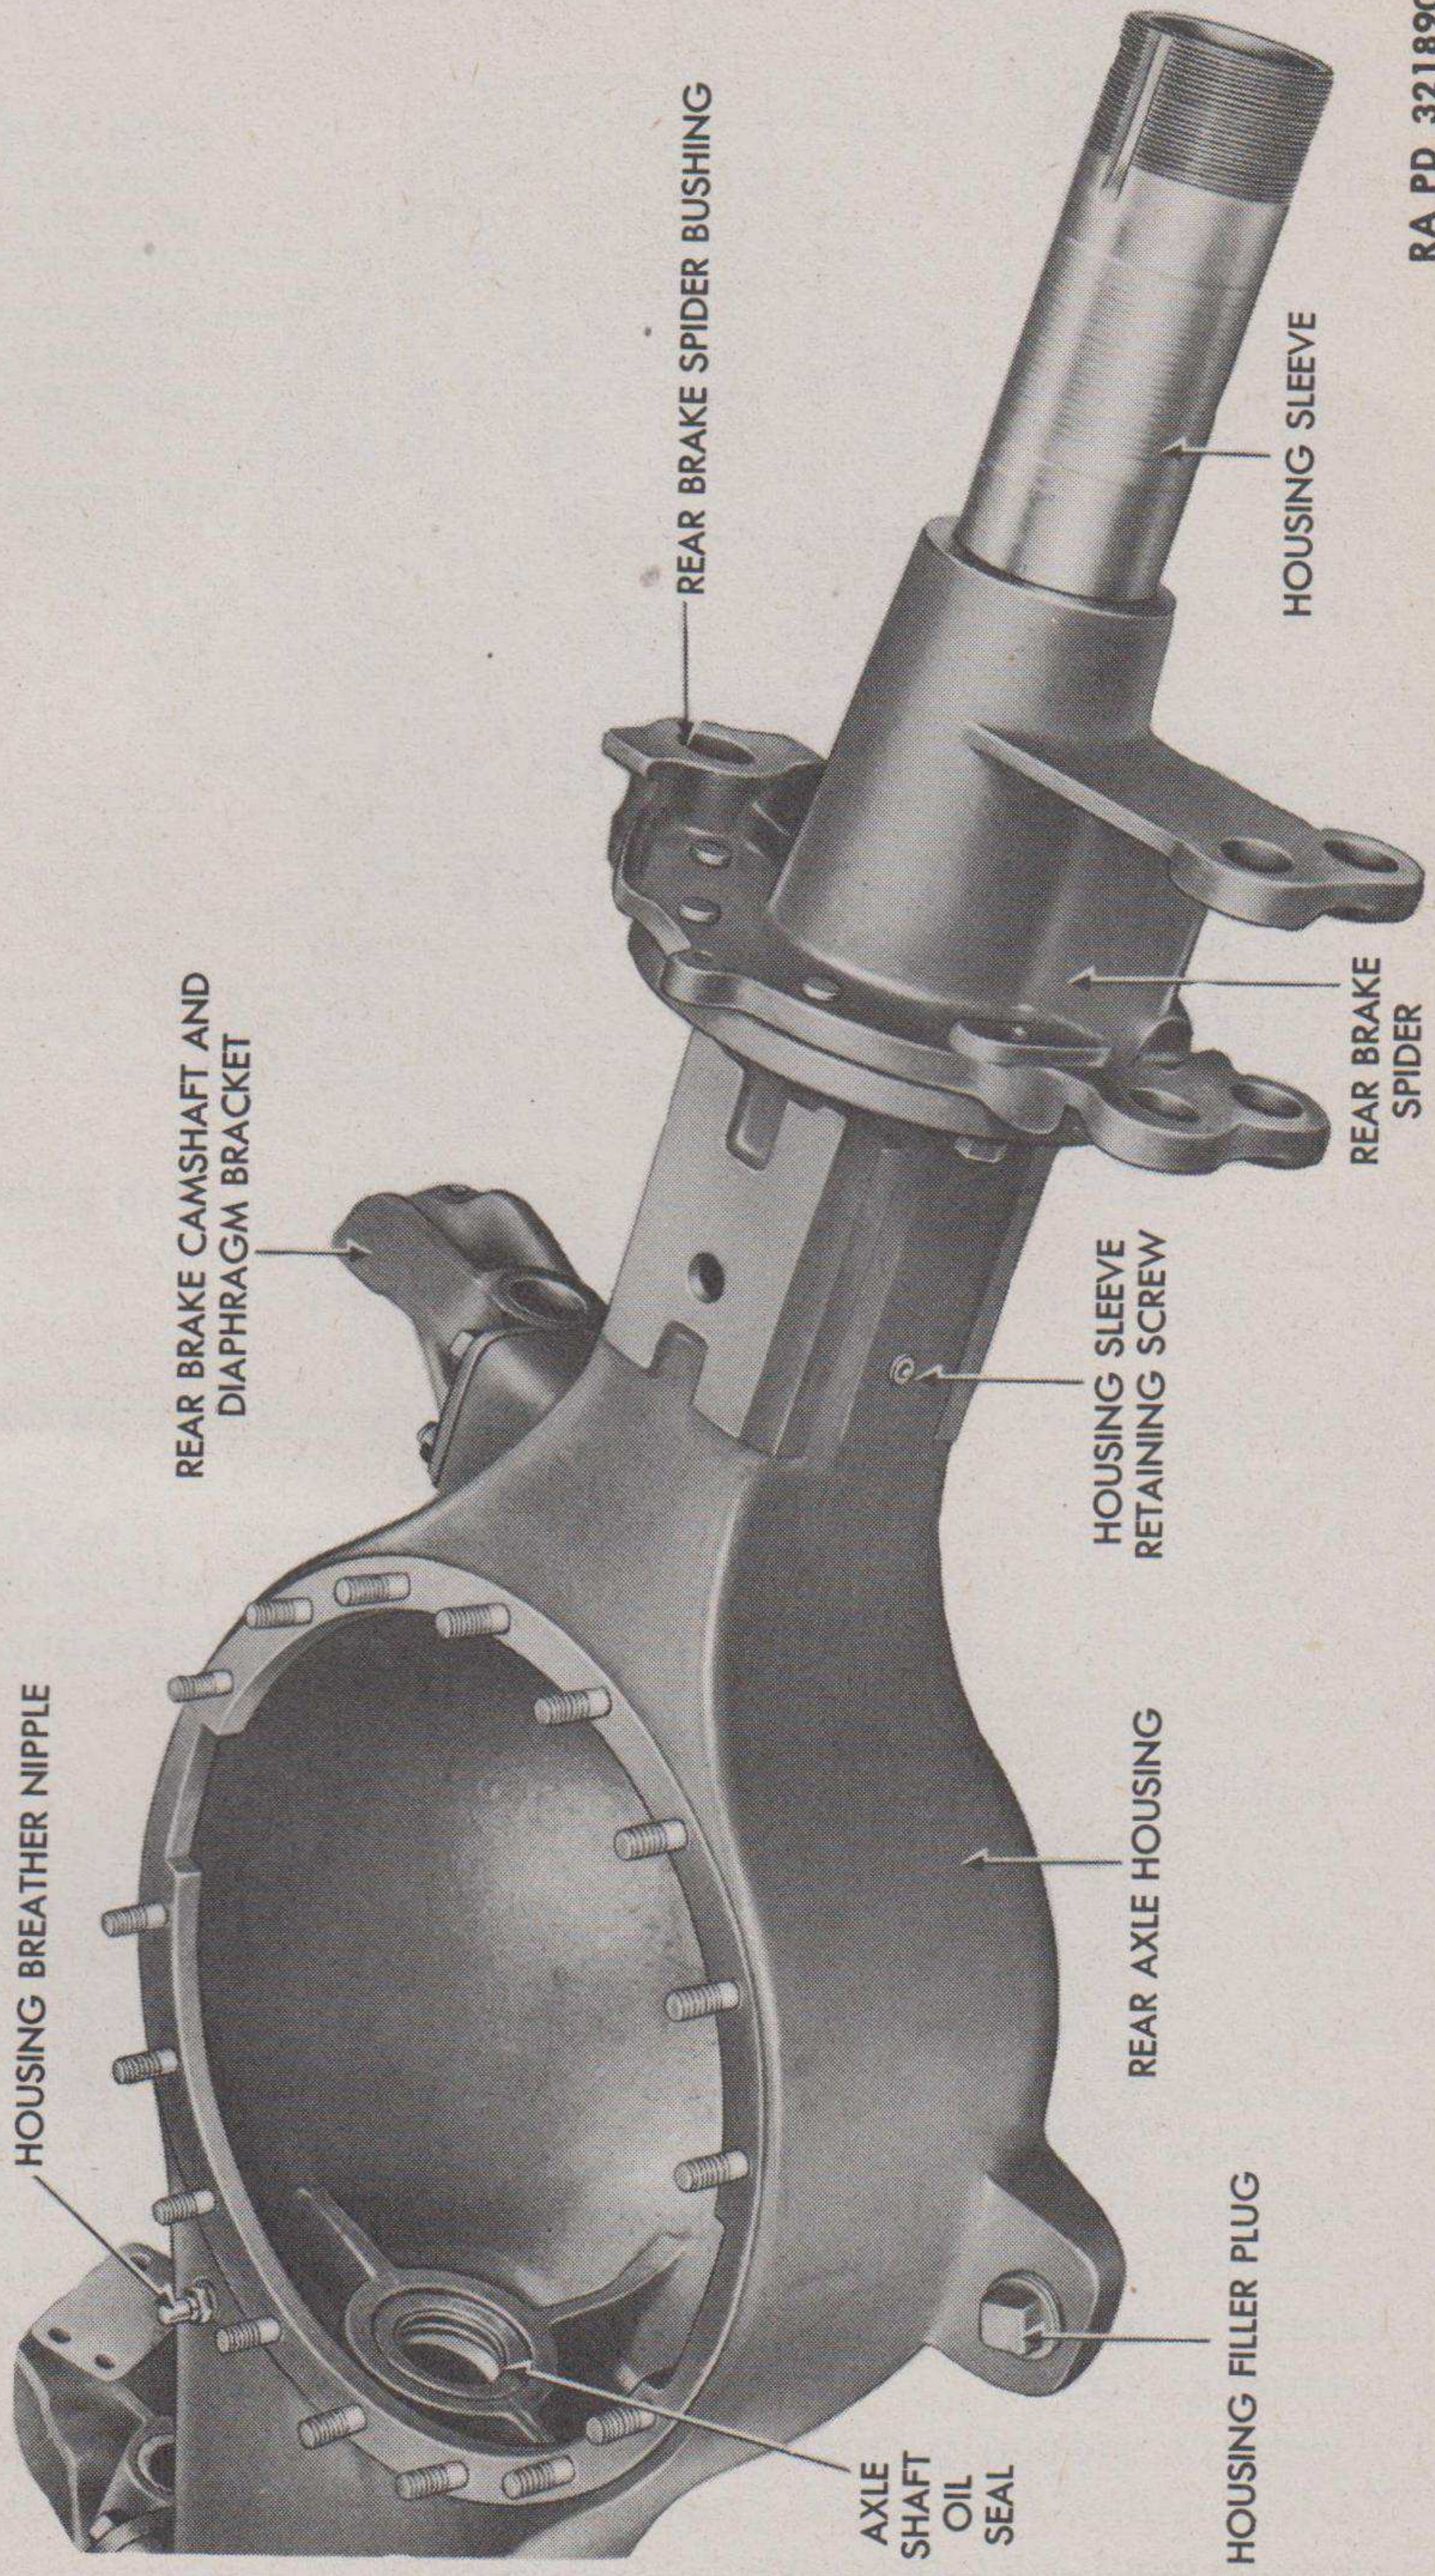
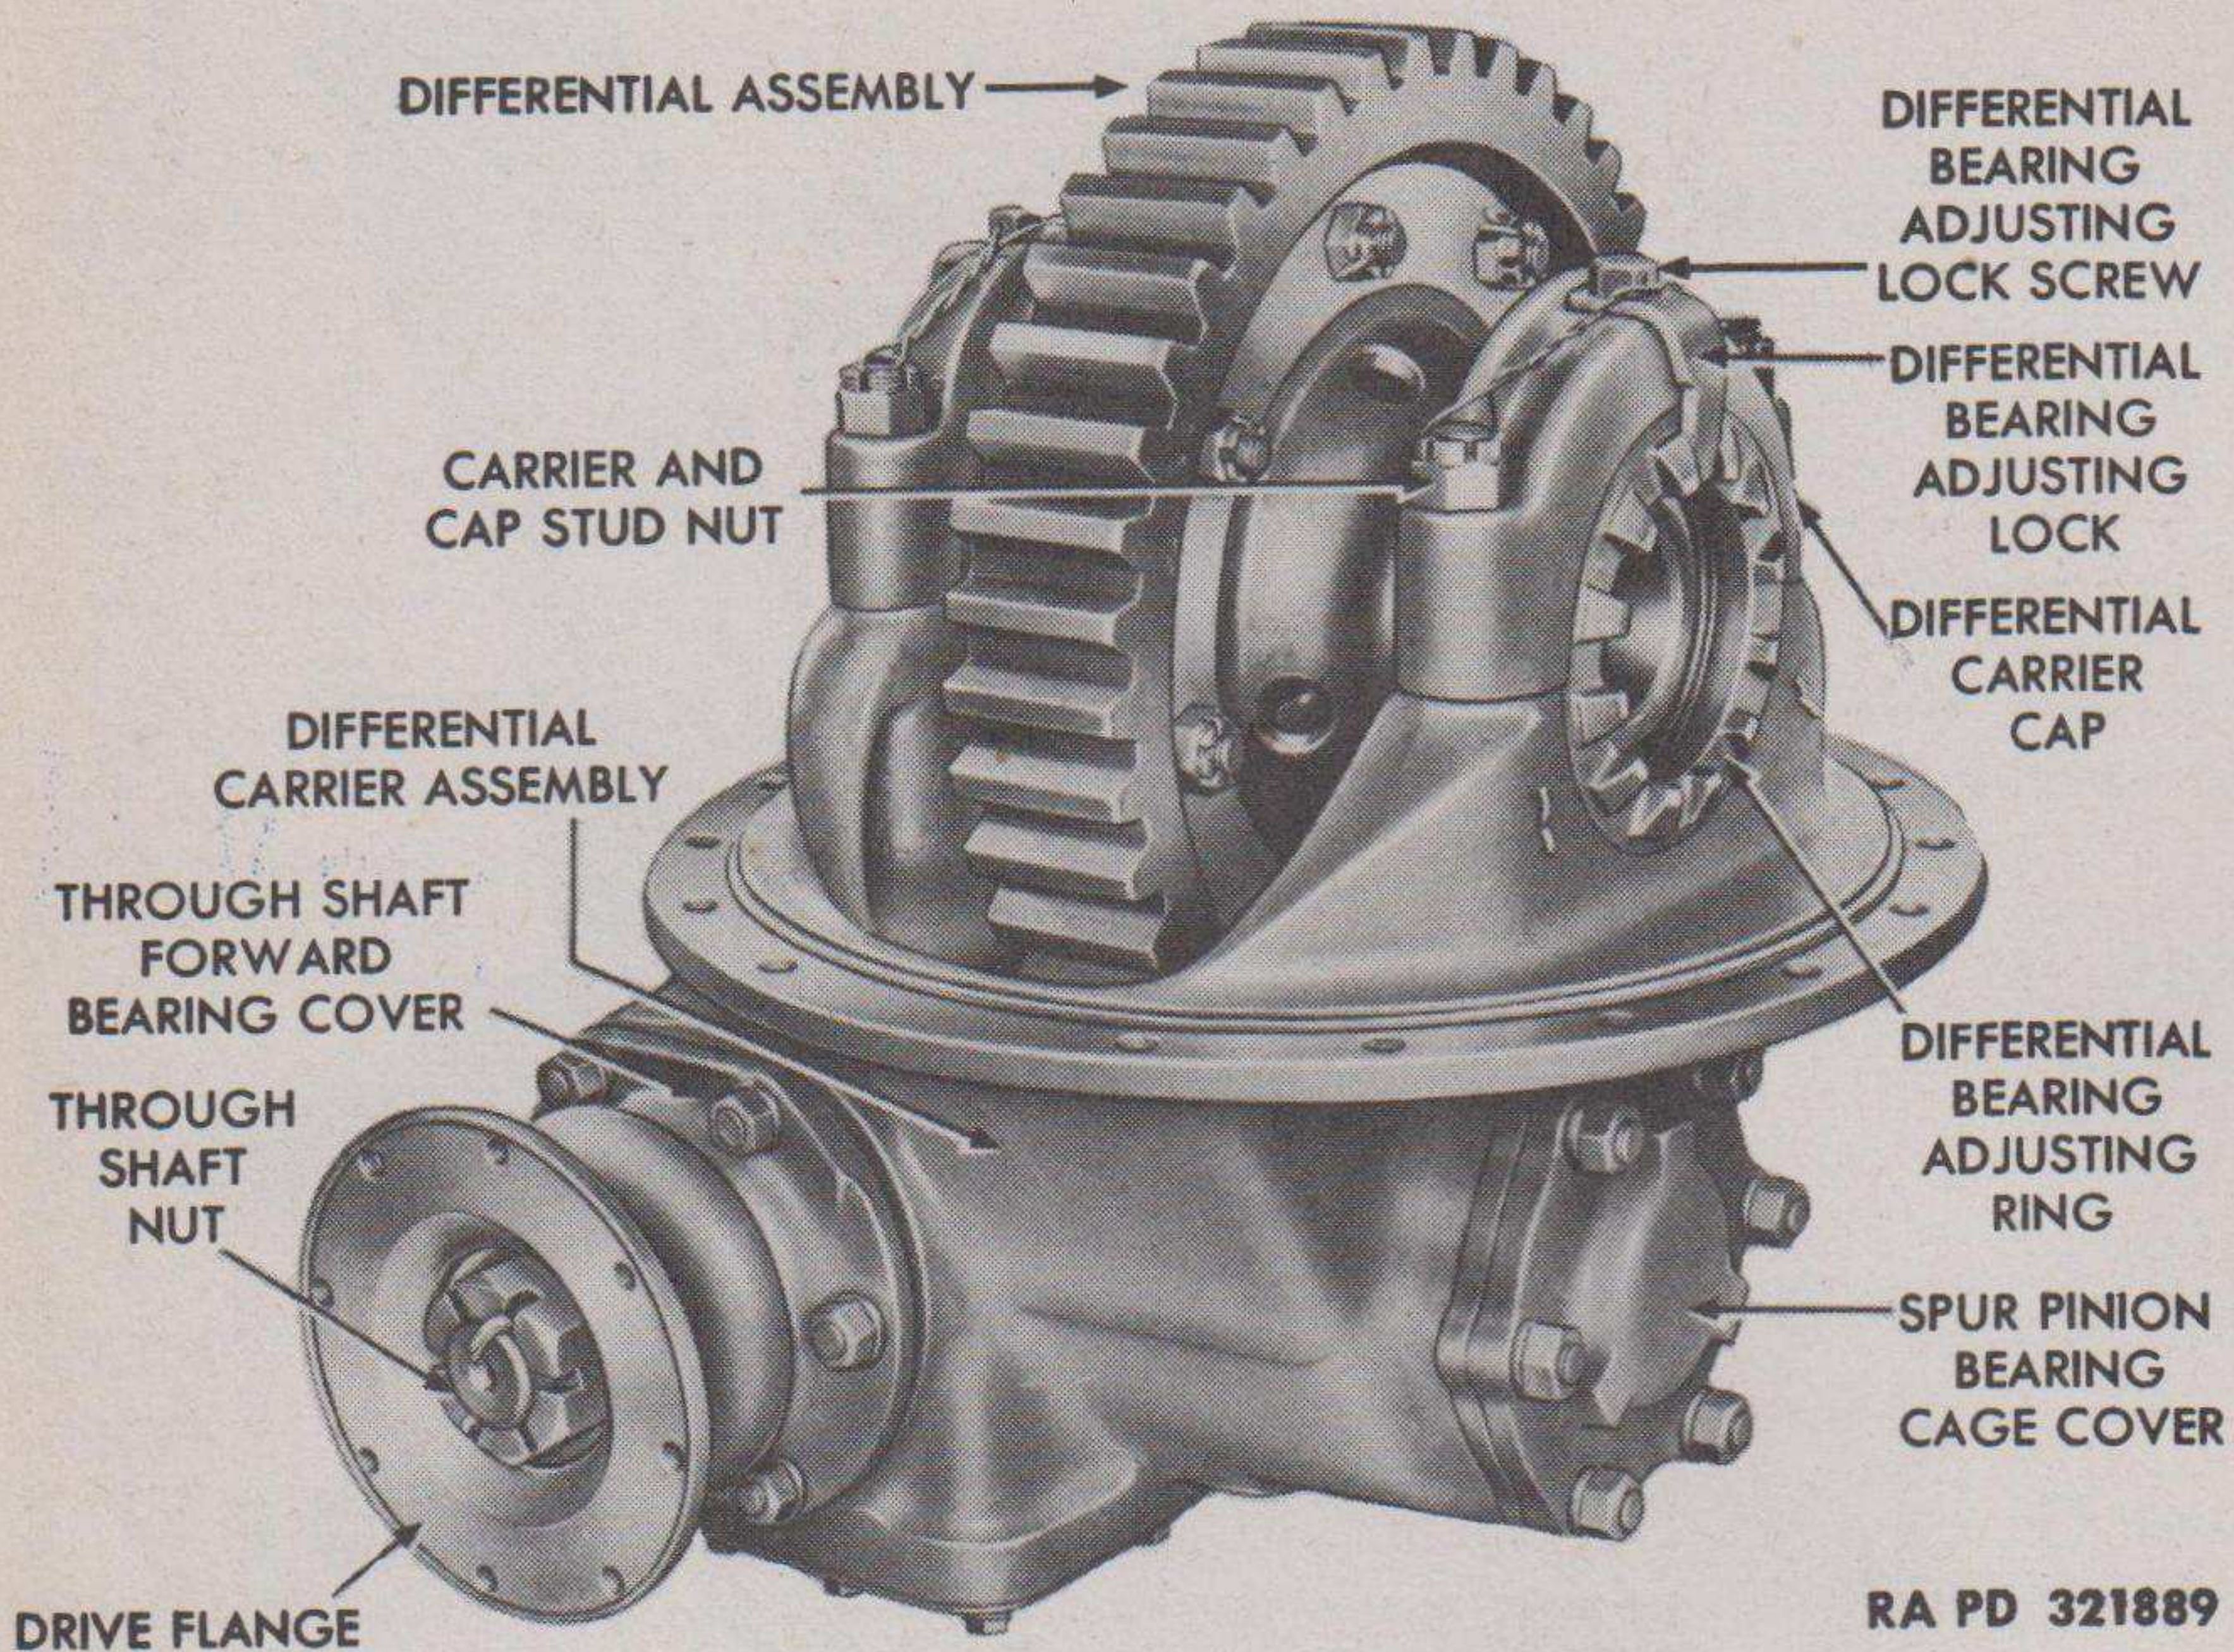
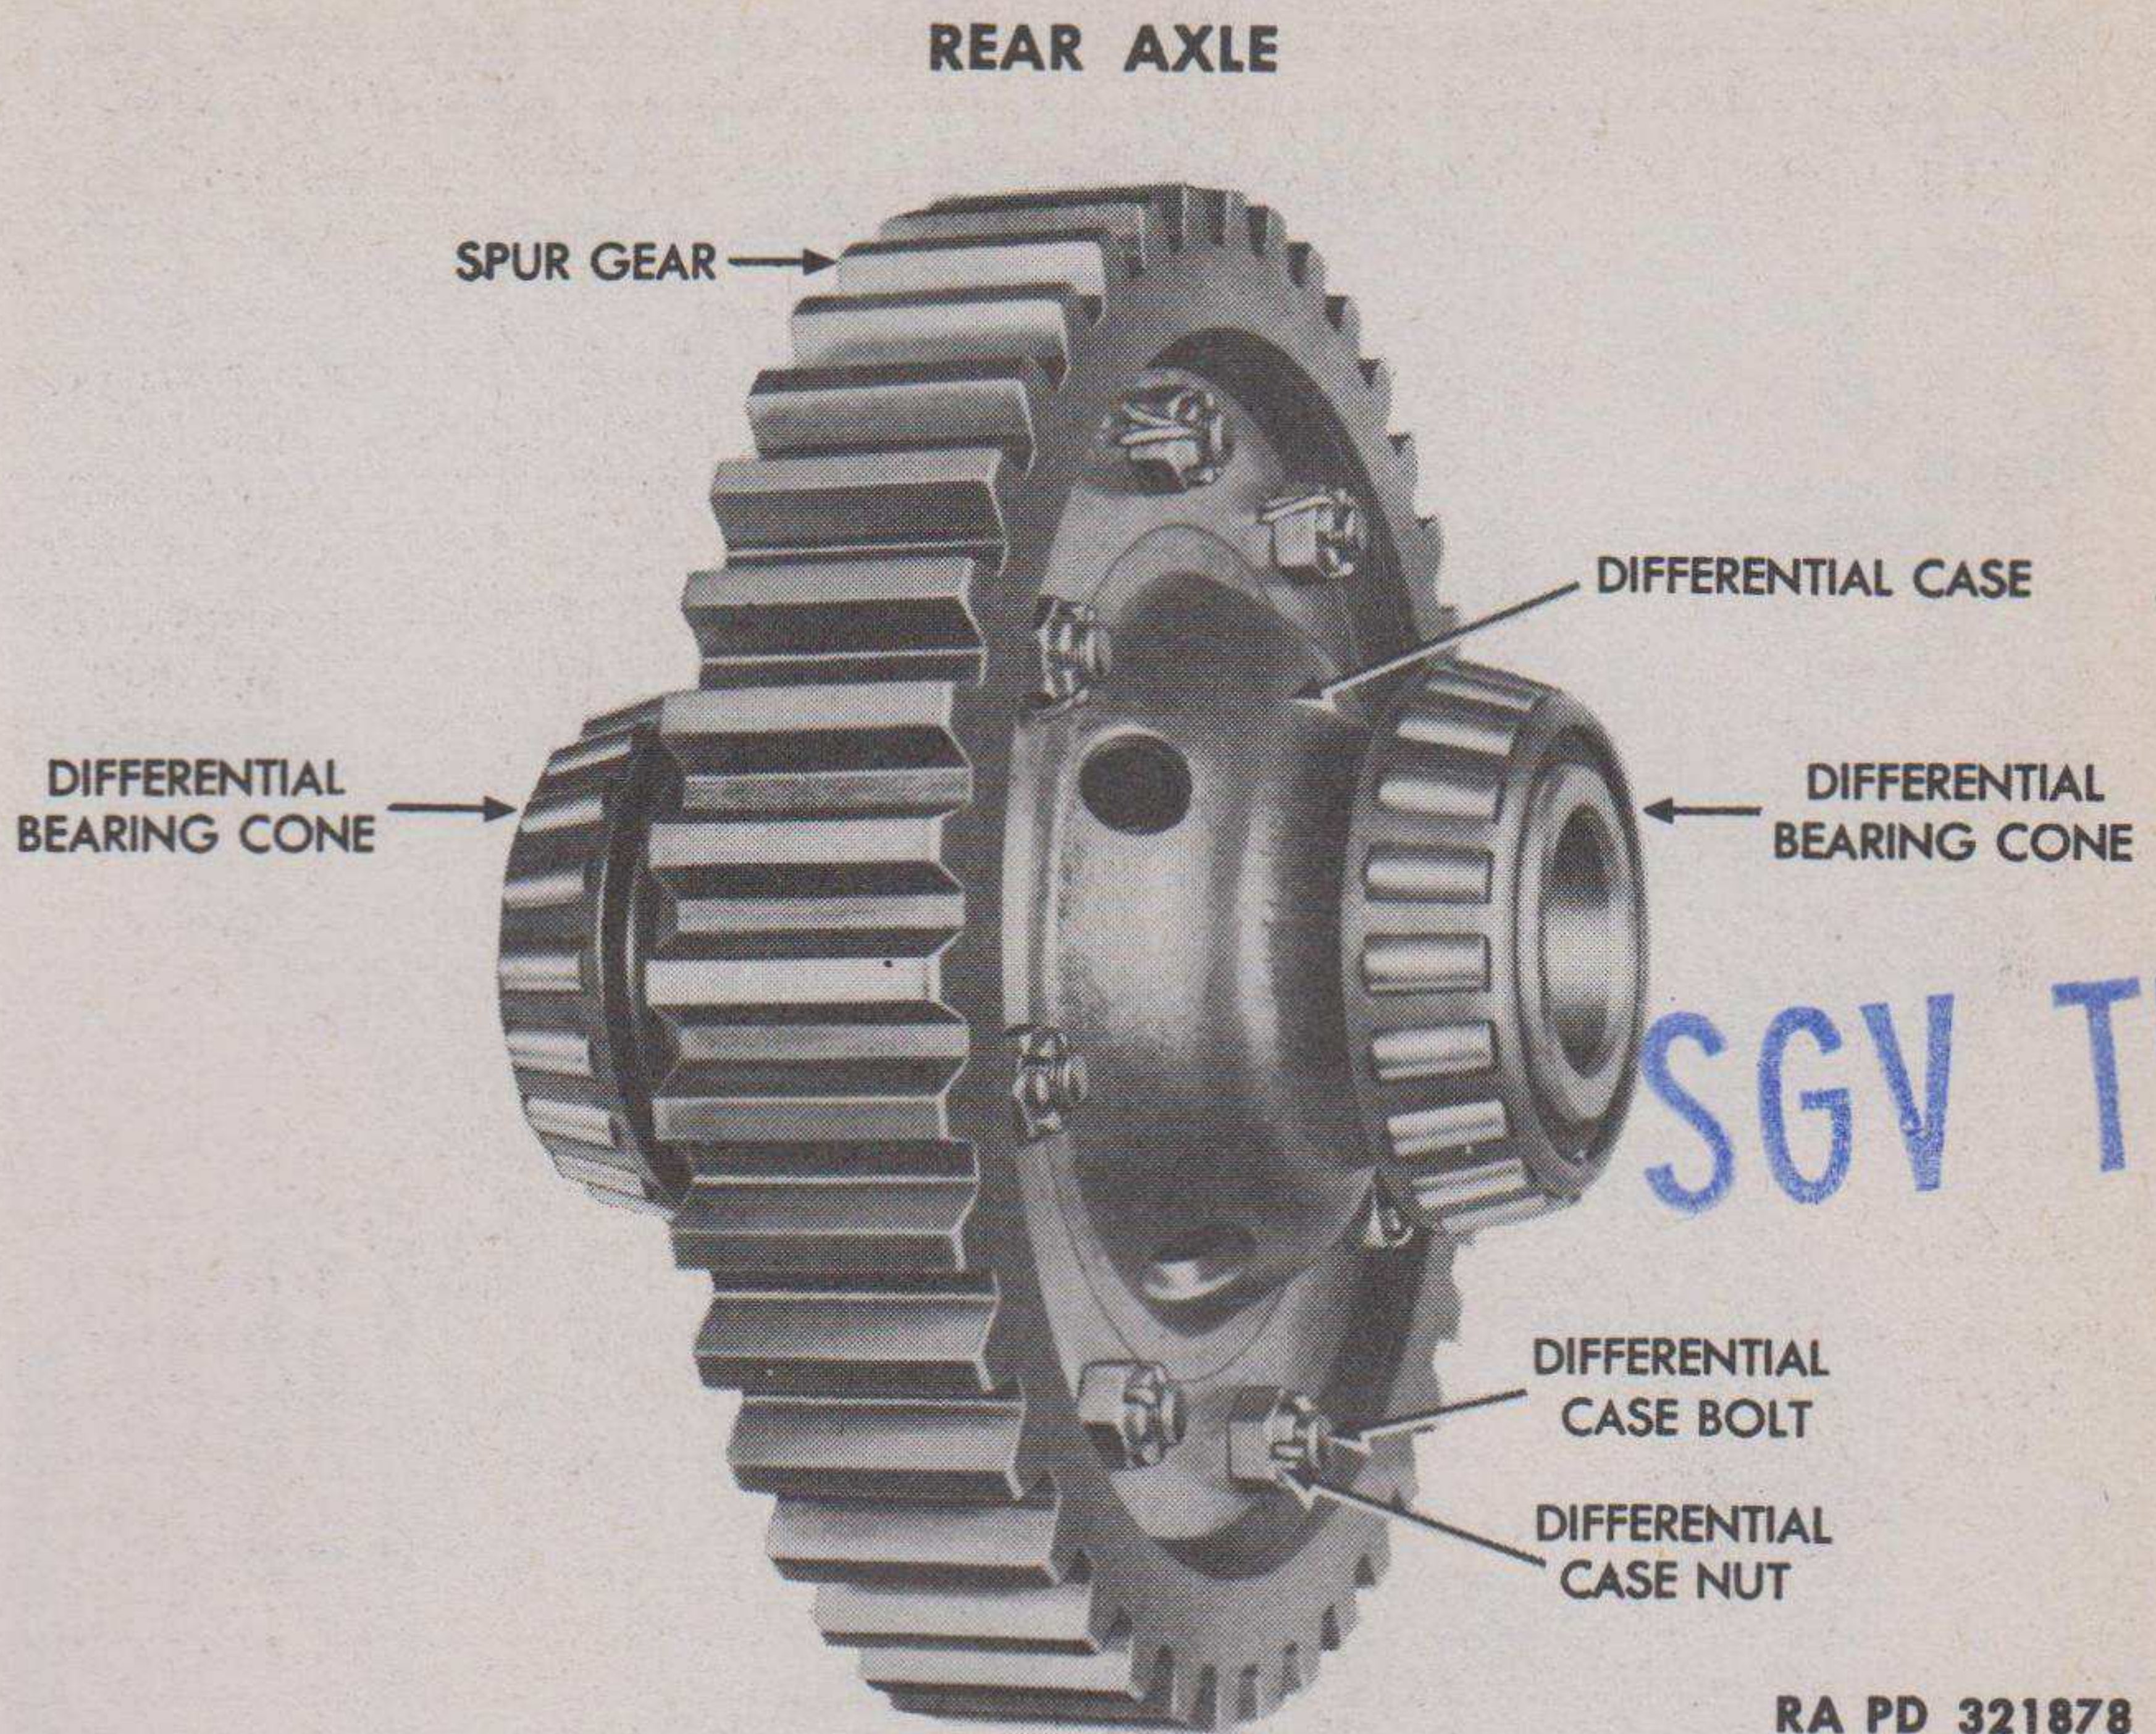

Figure 48 - Rear Axle Housing and Sleeve Assembly
Figure 49 — Differential Carrier Removed
Figure 50 – Differential Removed
a. **Description** (fig. 45). This rear axle is the double-reduction type in which the first reduction is obtained through a set of spiral bevel gears and the second through a set of straight spur gears. The entire gear set is mounted in a carrier (fig. 49) and is detachable from the axle housing as a unit. The spur pinion, through shaft, and differential are mounted on roller bearings, the bevel gear being pressed on the hub of the spur pinion and locked in position with a key. The differential and spur gear are mounted between cast legs on the carrier. They are supported by opposed tapered roller bearings held in place by adjusting rings and locks. The differential assembly (fig. 50) is composed of two halves with the spur gear attached to case flanges by means of bolts, castle nuts, and cotter pins. The inner surfaces of both halves of the differential case are recessed to provide a seat for the differential spider on which the pinion and side gears are mounted (fig. 51). The through shaft and bevel pinion gear are mounted on tapered roller bearings. The rear bearing is pressed directly on the shaft and the front bearing is pressed on the hub of the bevel pinion gear, which in turn is pressed on splines of through shaft. The axle housing (fig. 48) is a large 1-piece steel casting with inserted sleeves which carry the weight and provide for a full floating drive.
(1) REMOVE REAR BRAKE CAMSHAFT AND DIAPHRAGM BRACKETS (fig. 48). Remove nuts and lock washers attaching brackets to axle housing. Lift off brackets.
(2) REMOVE AXLE SHAFT OIL SEALS (fig. 48). Pry oil seals out of housing sleeves if seals are damaged or worn, but do not remove them if in good condition.
(3) REMOVE HOUSING BREATHER NIPPLE (fig. 48). Remove nipple from axle housing, and back breather nipple bushing out of nipple.
(5) REMOVE REAR BRAKE SPIDER AND AXLE HOUSING SLEEVE (fig. 48). It usually is advisable to replace the complete housing if a worn or damaged sleeve is found. If necessary to remove old sleeve and install new one, use the following procedure:
(a) Remove housing sleeve retaining screw (fig. 48) from side of axle housing.
(b) Remove six rivets, two cap screws, and lock washers attaching rear brake spider to axle housing (fig. 48).
(c) Using an axle housing sleeve puller, pull housing sleeve with attached brake spider out of rear axle housing (fig. 48).
(6) REMOVE REAR BRAKE SPIDER BUSHINGS (fig. 48). Tap bushings out of seat in brake spider if replacement is required, but do not remove otherwise.
(1) **INSTALL REAR BRAKE SPIDER BUSHINGS** (fig. 48). Carefully press bushings into brake spider with an arbor press. Break sharp edges of bushings and remove burs resulting from pressing operation.
(2) **INSTALL REAR BRAKE SPIDER AND AXLE HOUSING SLEEVE** (fig. 48). Press brake spider into position on axle housing sleeve. Line up rivet and bolt holes in spider with holes in axle housing, and drive the assembly into axle housing. Install rivets, cap screws, and lock washers securing assembly to axle housing. Install housing sleeve retaining screw.
(4) **INSTALL HOUSING BREATHER NIPPLE** (fig. 48). Thread breather nipple into nipple bushing. Thread this assembly into top of axle housing.
(5) **INSTALL AXLE SHAFT OIL SEALS** (fig. 48). Tap oil seals into position in axle housing.
(6) **INSTALL REAR BRAKE CAMSHAFT AND DIAPHRAGM BRACKETS** (fig. 48). Attach brackets to axle housing by installing lock washers and stud nuts.
(1) **REMOVE DIFFERENTIAL ASSEMBLY** (fig. 49). Remove lock wires. Remove differential bearing adjusting lock screw and lift off adjusting lock. Remove four differential carrier and cap stud nuts. Lift off carrier caps. Remove differential bearing adjusting rings. Lift differential assembly out of carrier. Remove both bearing cups which will be free when assembly is lifted.
(2) **DISASSEMBLE DIFFERENTIAL ASSEMBLY** (fig. 50 and 51). Remove cotter pins and castle nuts. Tap out differential case bolts and lift off the thin case with attached bearing cone. (The two halves of the differential case have bolt flanges of different thick-
(8) **ASSEMBLE DIFFERENTIAL ASSEMBLY** (figs. 50 and 51). Using replacer 41-R-2384-165, install one of the differential bearing cones on hub of thin half of differential case. Rest case on bearing cone, place differential gear in position with flat side of gear down, and bolt holes in gear and case alined. Insert one side gear thrust washer and side gear into case. Next, place pinion gears and thrust washers on differential spider arms and install in mesh with side gear. Install remaining side gear and thrust washer. Press bearing cone on thick half of differential case and place assembly on differential gear with bolt holes alined. Tap differential case bolts into position with tapered ends of heads facing toward gear teeth. Install castle nuts and lock washers.
(9) **INSTALL DIFFERENTIAL ASSEMBLY** (figs. 49 and 52). Place carrier on a bench with large circular opening facing upwards. Place differential bearing cups on the bearing cones and lift assembly into position in carrier. Differential spur gear must mesh with spur pinion. Place bearing adjusting rings against bearings with threads in rings